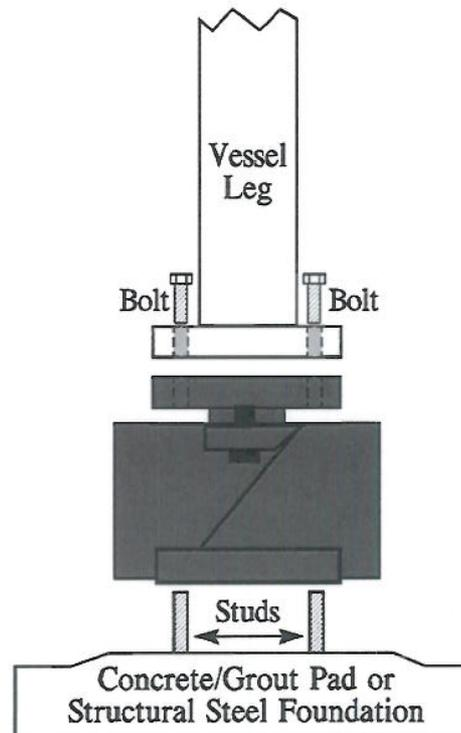

Figure 2-3. Z-BLOK Installation Assembly Diagram
(4) **Mechanical Installation (Figure 2-3):** Raise the vessel and install the weigh modules in place on the base mounting surfaces. Before bolting down, be sure that the base surface of the weigh module is uniformly supported and level. Lower the vessel onto the expansion/retainer plates and bolt in place. Avoid dropping the vessel or applying an impact load to the weigh modules. Tighten mounting bolts to the bolt manufacturer's recommended torque specification. Following installation, do not perform arc welding on the vessel or any support structure electrically in contact with the weigh module.